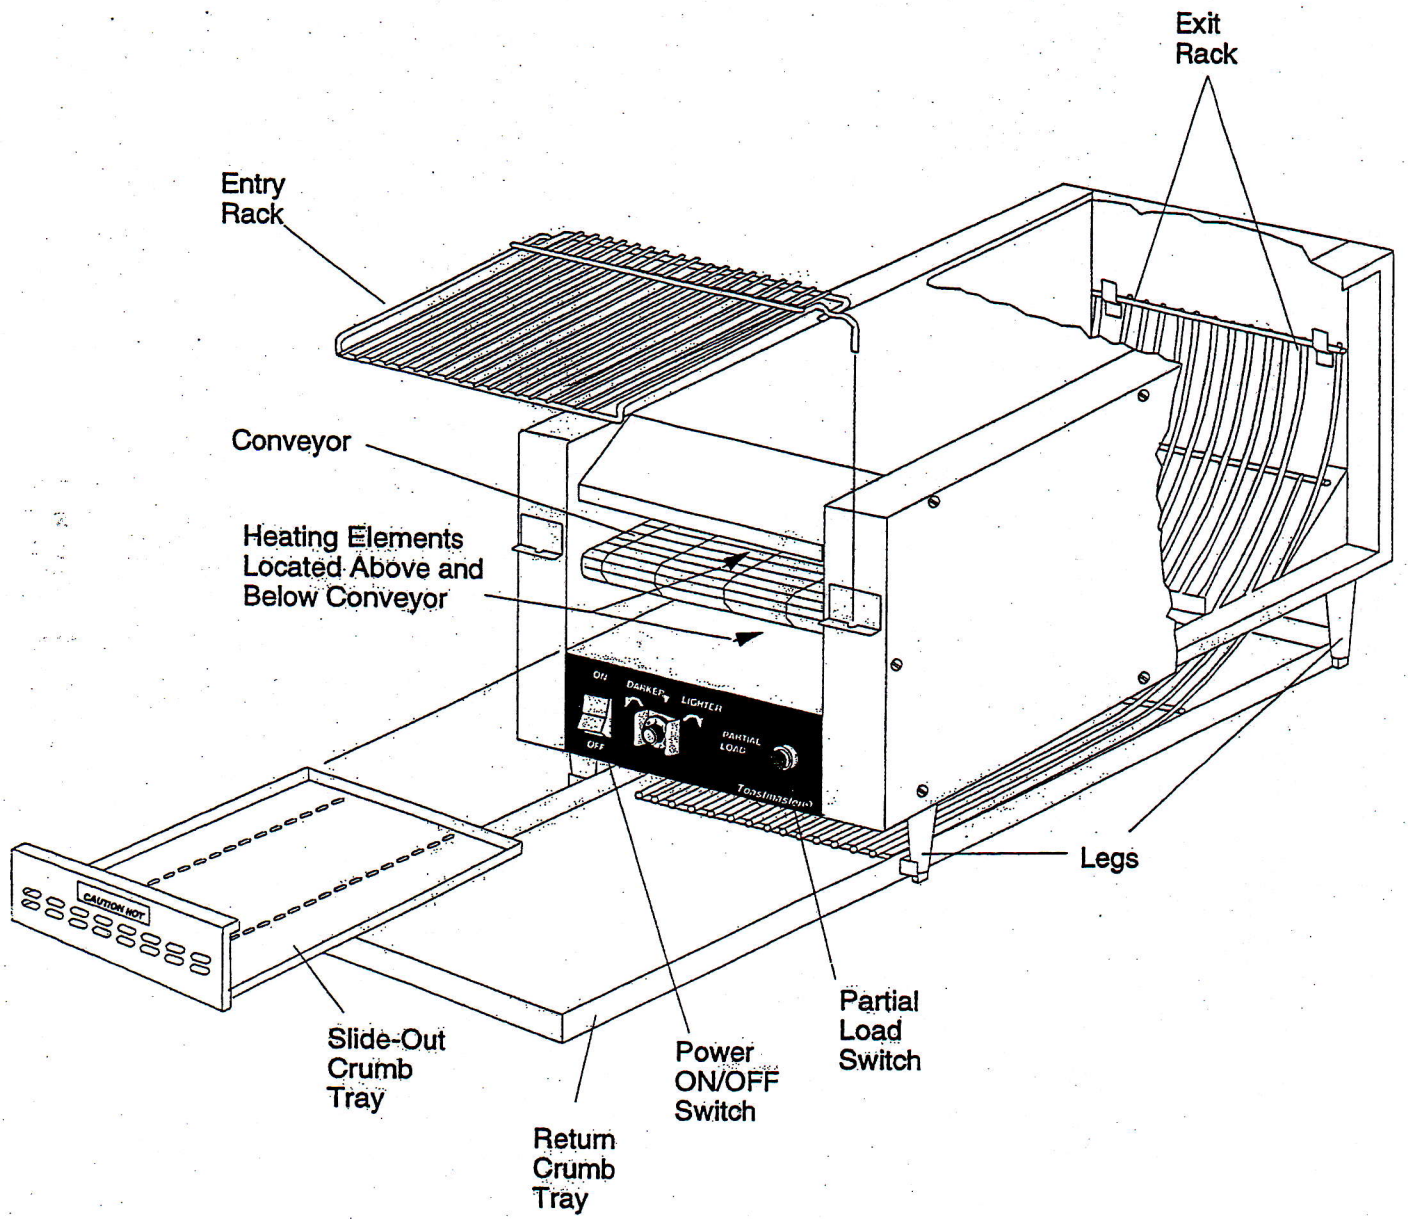

Figure 1
6. Install the 4" legs shown in Figure 1 and place conveyor toaster in desired location.
7. Install the return crumb tray by positioning the brackets on the side of the tray against the front legs of the toaster as shown in Figure 1.
8. Install the entry rack, slide-out crumb tray and exit rack as shown in Figure 1.
2. Push Power ON/OFF Switch "ON". See Figure 1.
4. Visually check that all heating elements are heating and glowing red. See Figure 1.